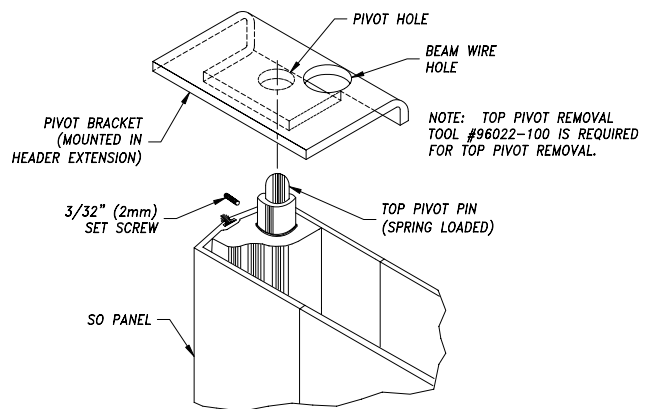

FIGURE 3: SO Pivot Detail
- When installing the SO panel (inside slide only), be sure to release the top pivot pin into the hole (Figure 3). Take care not to pinch or cut the safety beam wires during installation. Route the safety beam wires in the rear channel.